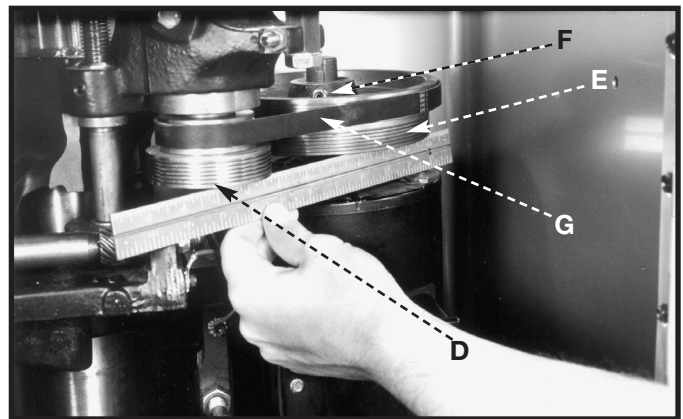

Fig. 45B
2. Always align the spindle pulley (D) Fig. 45B, and motor pulley (E) to provide maximum belt performance and to reduce belt wear. To check the pulley alignment, place a straight edge against the underside of both pulleys (Fig. 45B). If an adjustment is necessary, loosen the set screw (F) and move the motor pulley up or down until the two pulleys (D) and (E) are aligned. Tighten the set screw.